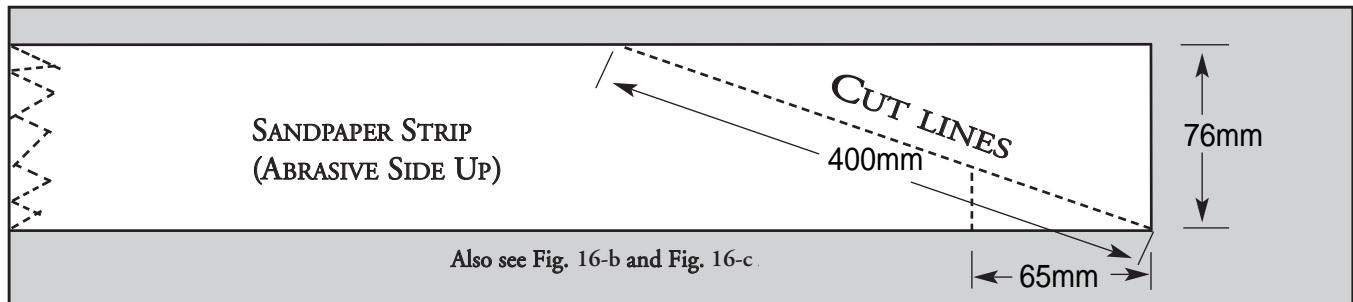
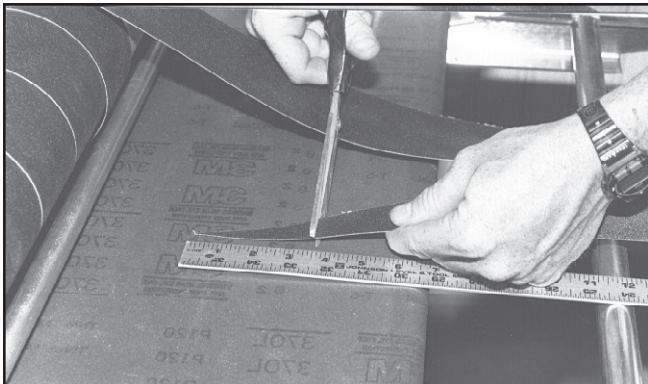

Fig. 16 Marking and cutting taper on strip.
Fig. 16B Trim about 65mm from end of cut taper.
1. Mark and cut a taper at one end of the roll as shown in Fig. 16. Because the tapered end should use most of the left (outboard) slot width, its end must be trimmed (Fig. 16B and 16C). Raise the clip lever on the left (outboard) side of the drum (Fig. 16D). Insert the tapered end through the slot and into the fastener so that it uses most of the width of the slot. Release the clip lever to securely hold the strip end in the fastener.